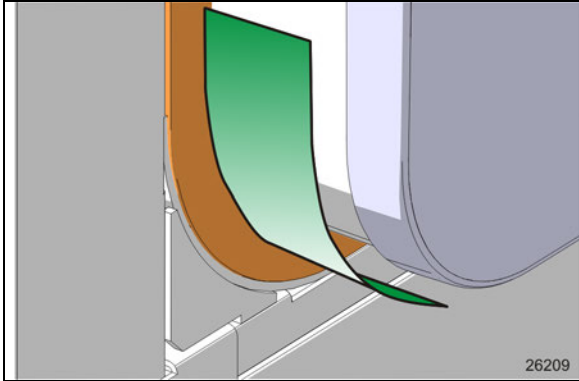

FIGURE 20: PLASTIC SHEET -WIPER SEAL PROTECTION
- Protect the wiper seal by inserting a polypropylene plastic sheet between the room and the wiper seal. Do this on both bottom corners (Figure 20). This will distribute the compression of the wiper seal on a wider zone and prevent the room exterior panel corner from binding or pulling on the wiper seal.